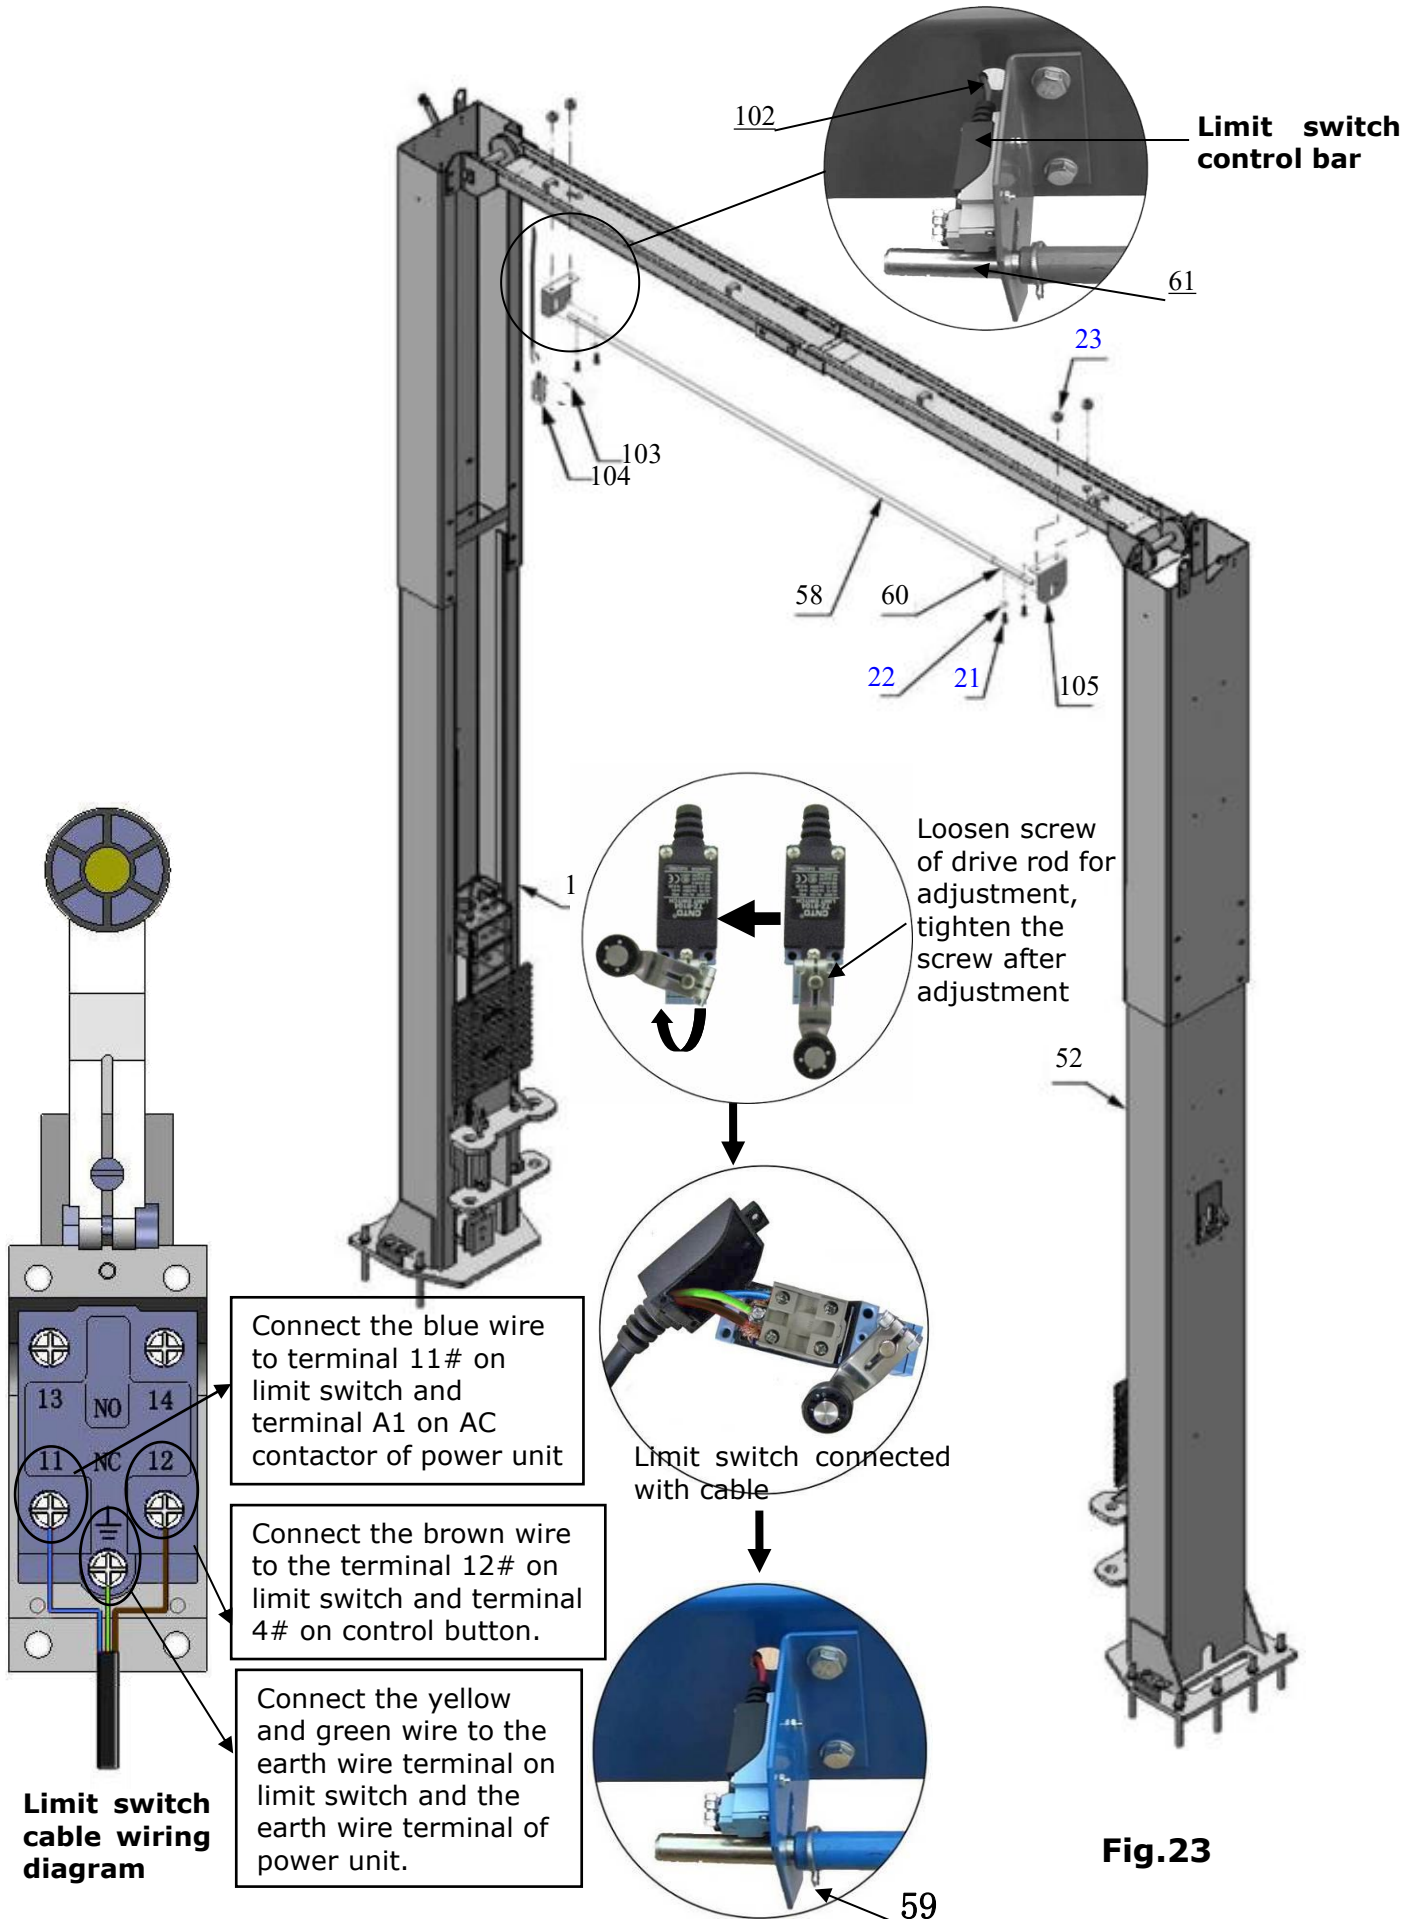

Fig.23
I. Installing the limit switch control bar and limit switch (See Fig. 23)